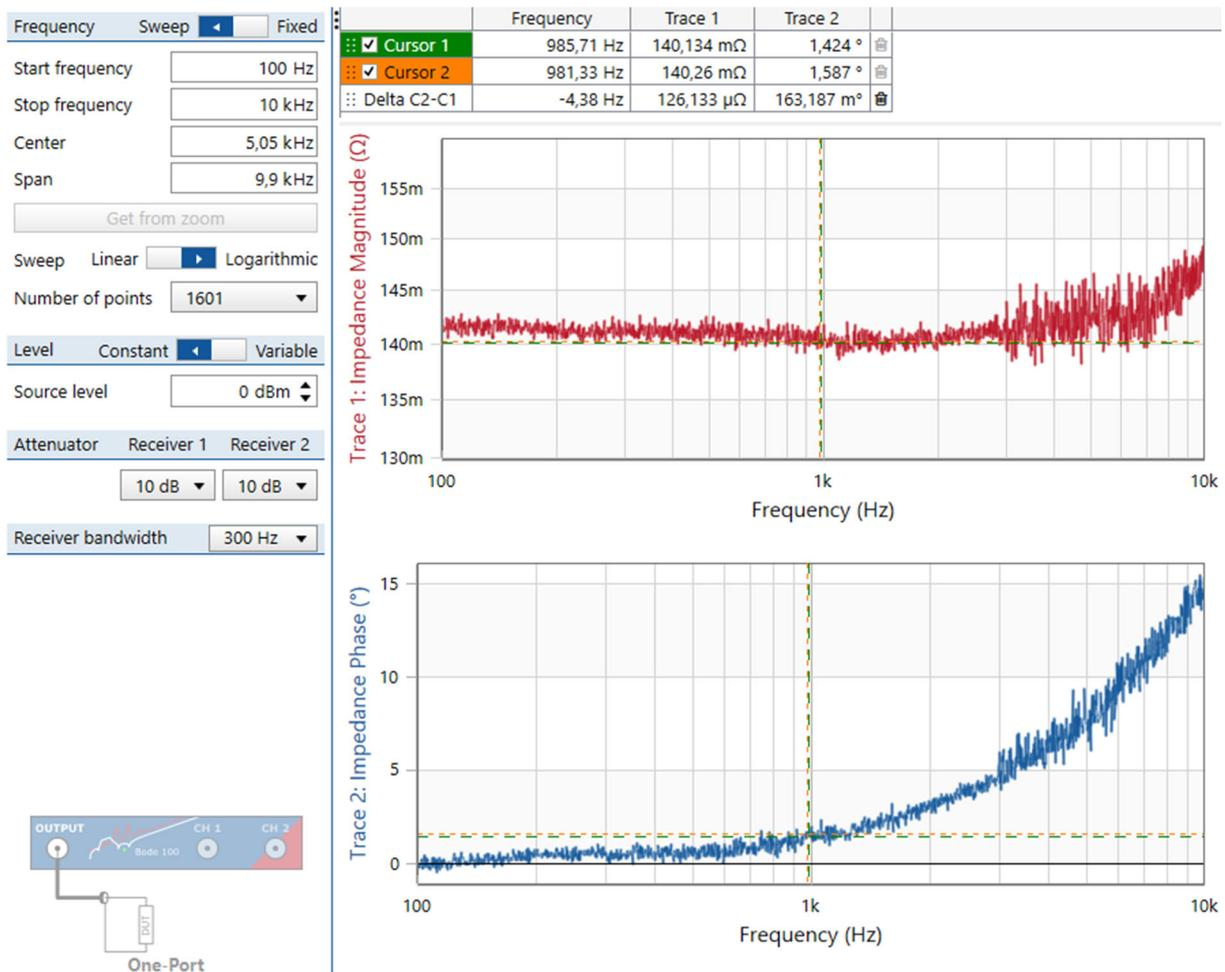

Fig. 3.3.2(b): One-Port Impedance Measurement with Bode100 of a 125cm BNC-to-pin cable.
According to theory, both cursor 1 and 2 should be at the same frequency now. Normally this is not the case. Repeat the measurement detailed above with 1601 points, create your own Fig. 3.3.2(a) with your *DCDCbuck* board and copy it into your documentation.
The measurement shown in Fig. 3.3.2(a) includes the cable resistors. To find out the cable impedance, connect both ends of your measurement cable to ground and repeat the measurement of Fig. 3.3.2(a).
- (ii) the phase characteristics of the cable, that explains the cursor 2 at phase 0 in Fig. 3.3.2(a) is a little bit left from cursor 1 at impedance magnitude minimum.